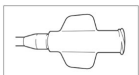

Figure 2: Irrigation Hub
- If irrigation is desired, attach irrigation hub to the supplied Syringe filled with sterile saline solution (Figure 2).